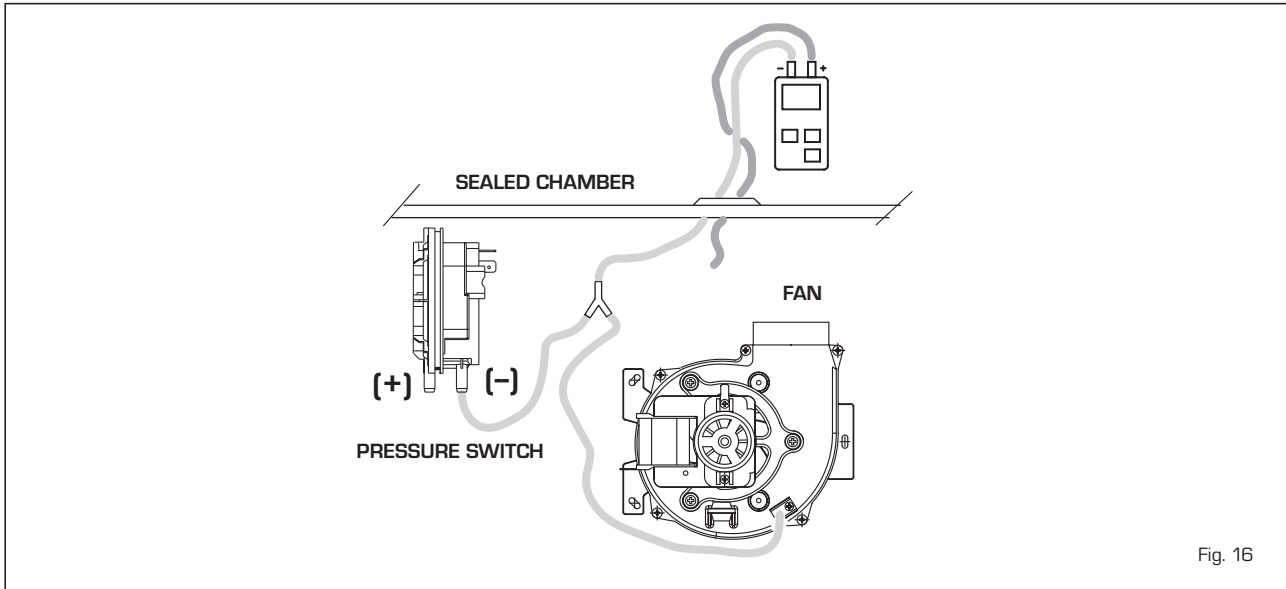

Fig. 16
3.9 FUMES PRESSURE SWITCH "25-30 BF" (fig. 16)
The value of the signal to the pressure switch is measured by a differential pressure gauge connected as indicated in fig. 16.